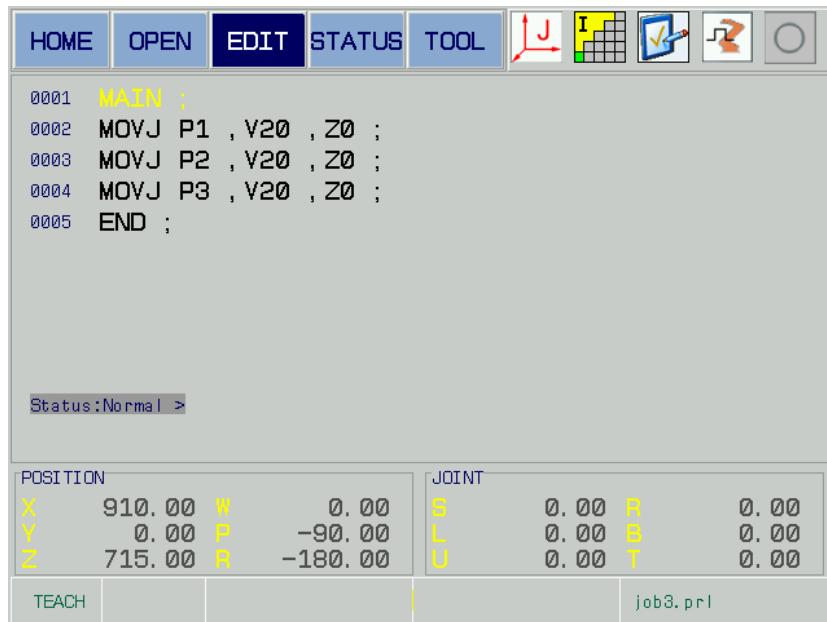

Fig. 2-7
- Cursor stops at the {EDIT} menu after entering the {EDIT} interface, refer to Fig. 2-7